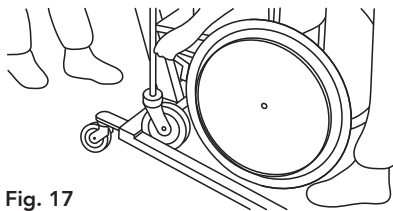

Fig. 17
3. The rear wheel locks are locked to further prevent movement of the chair. See Fig. 17.